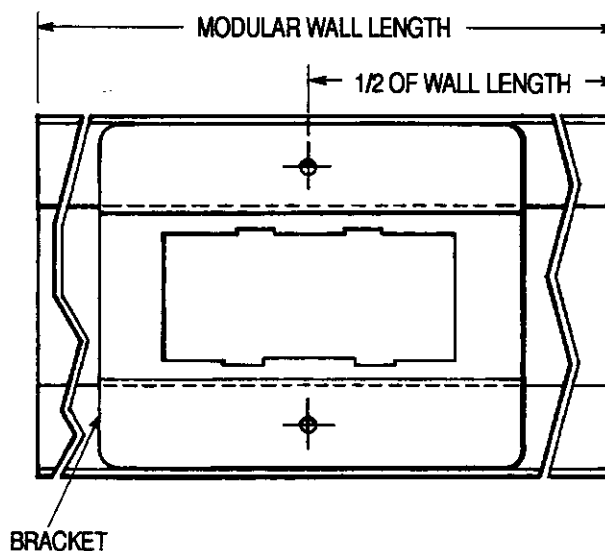

Figure 4
1. Determine length of movable modular wall. Locate and mark center of wall. See Figure 4.